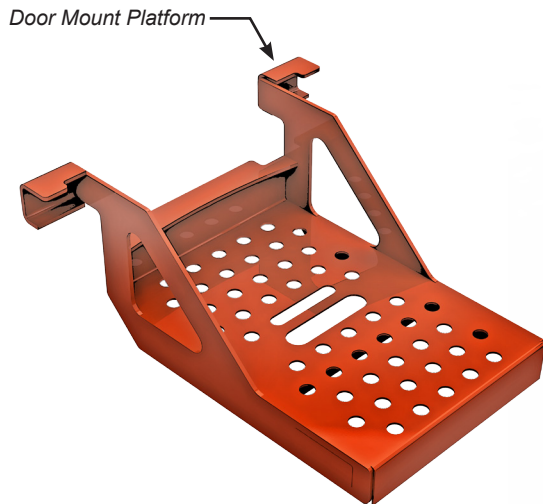

FIGURE 5.1
1. Locate proper cleaning platform (see Figure 5.1 and 5.2).